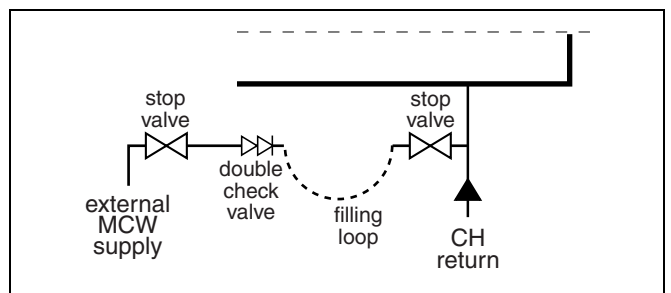

fig. 41 Connecting filling loop
- Connect filling loop (fig. 41).
- Open both stop valves (fig. 41).